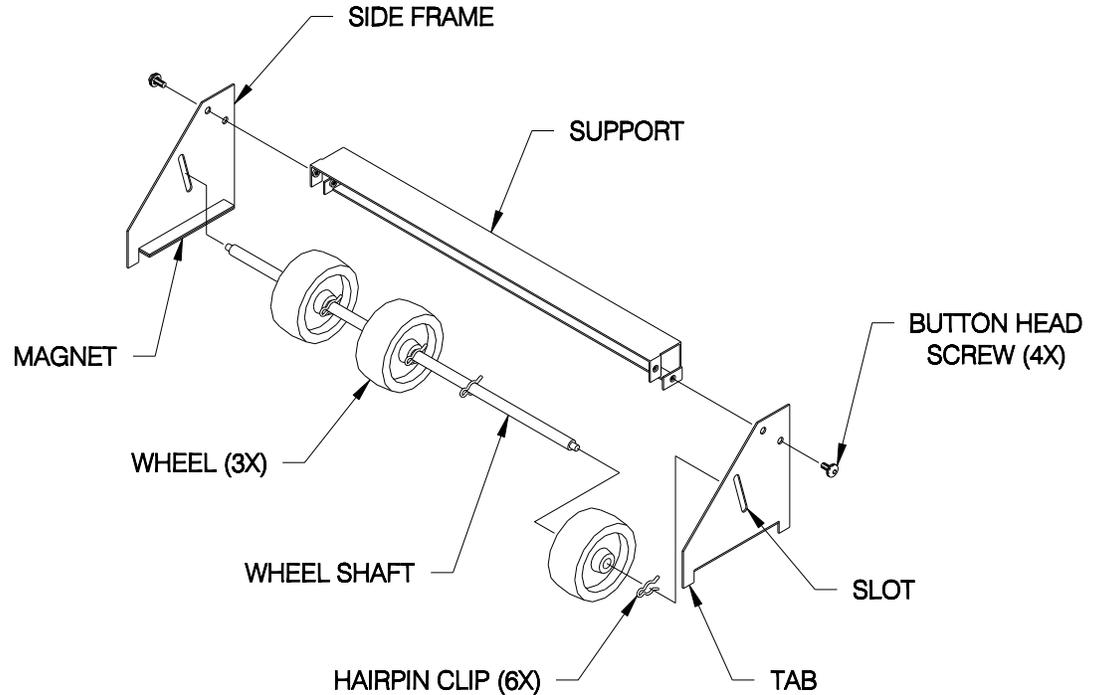

Figure 4.1 -- Assembling the Weight Wheels
1. Fasten one SIDE FRAME to the SUPPORT. Line up the holes in one end of the SUPPORT with the holes in one SIDE FRAME. (Refer to **Figure 4.1**.)
2. Secure 1 BUTTONHEAD SCREW through each hole. Keep these BUTTONHEAD SCREWS slightly loose. (Refer to **Figure 4.1**.)
3. Place 1 HAIRPIN CLIP on the WHEEL SHAFT. Place 1 WHEEL on the WHEEL SHAFT next to the HAIRPIN CLIP. Continue until all 3 WHEELS are on the WHEEL SHAFT with a HAIRPIN CLIP on each side of the WHEEL. (Refer to **Figure 4.1.**)
5. Fasten the other SIDE FRAME to the SUPPORT. Place the other end of the WHEEL SHAFT in the SLOT. Line up the holes in the SUPPORT with the holes in the SIDE FRAME. (Refer to **Figure 4.1.**)